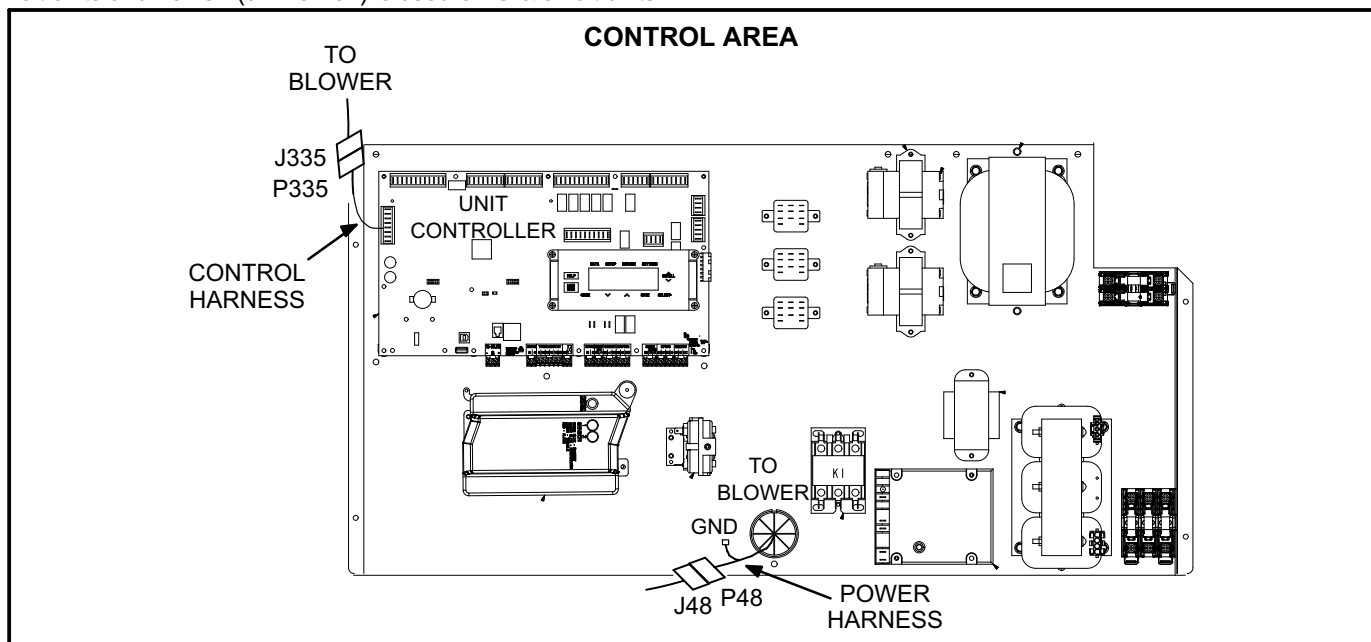

FIGURE 2
- 3- Disconnect J48 from P48 and J335 from P335 in the controls area. See figure 2.
- 5- Disconnect J335 from P335 in the controls area. See figure 2.
- 18- Connect P48 and J335 to J48 and P335 as shown in figure 2.